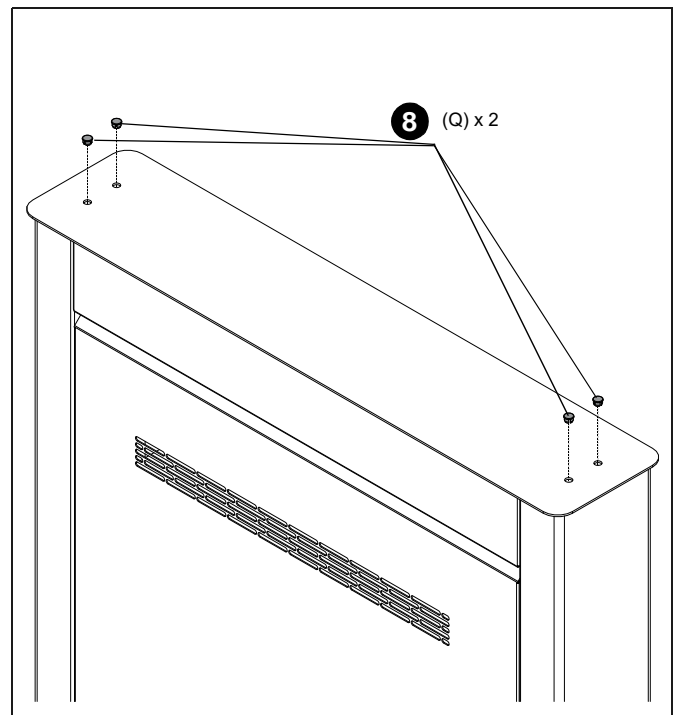

Figure 20
8. Insert four plugs (Q) into the holes in the top panel of the kiosk frame. (See Figure 20)